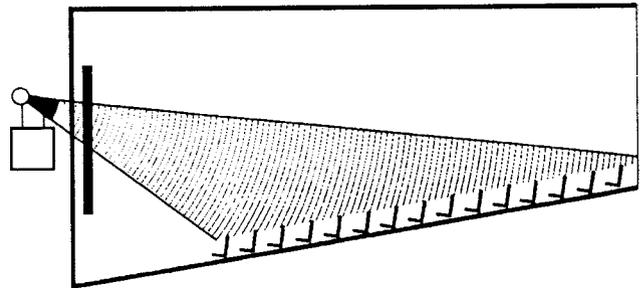

Figure 13. High Frequency Horn Aiming For Optimum Coverage Throughout Theatre
(2) The crossover network is another potential problem area. The primary function of the adjustment on this network is to match the low frequency and high frequency horn outputs. Feed **PINK NOISE** into the power amplifier and use a **REAL TIME ANALYZER** with a microphone in the room to adjust the crossover control, or tap for flat response in the mid band range, from 250 Hz to 2 kHz.
(3) Check the tilt of the high frequency horn. If necessary adjust it for good coverage throughout the auditorium. See *Figure 13*.